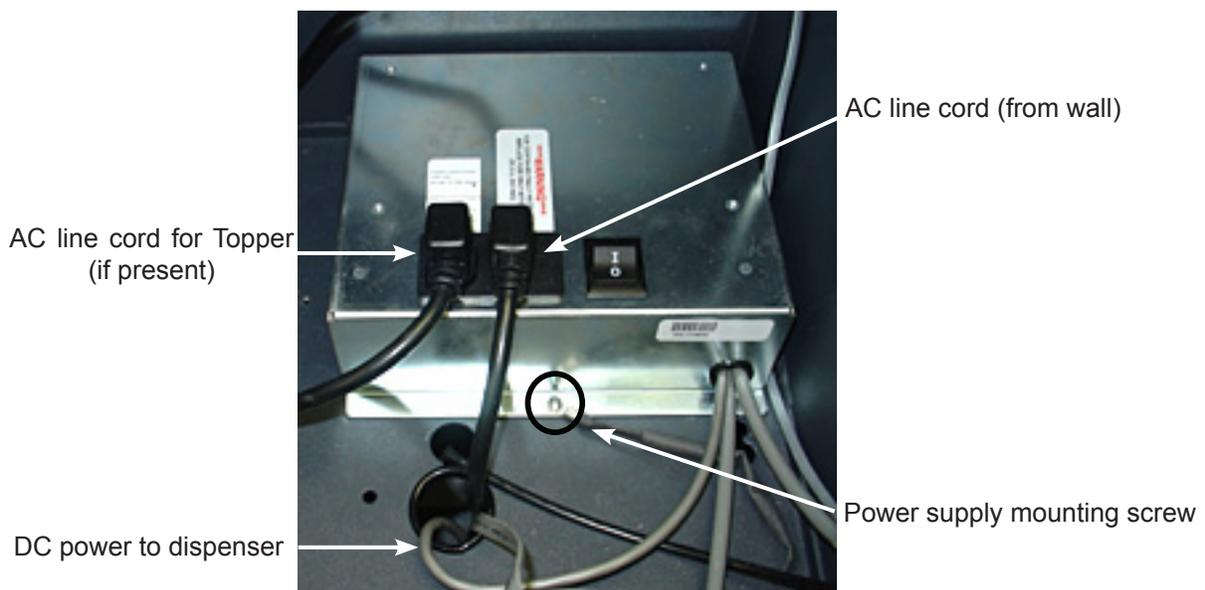

Figure 3. Disconnecting the 9100 single DC power supply
1. Refer to Figure 3. Disconnect the AC line cord and the topper (if present) at the DC power supply.
2. Refer to Figure 3. Disconnect the input AC line cord (from the wall) at the DC power supply.